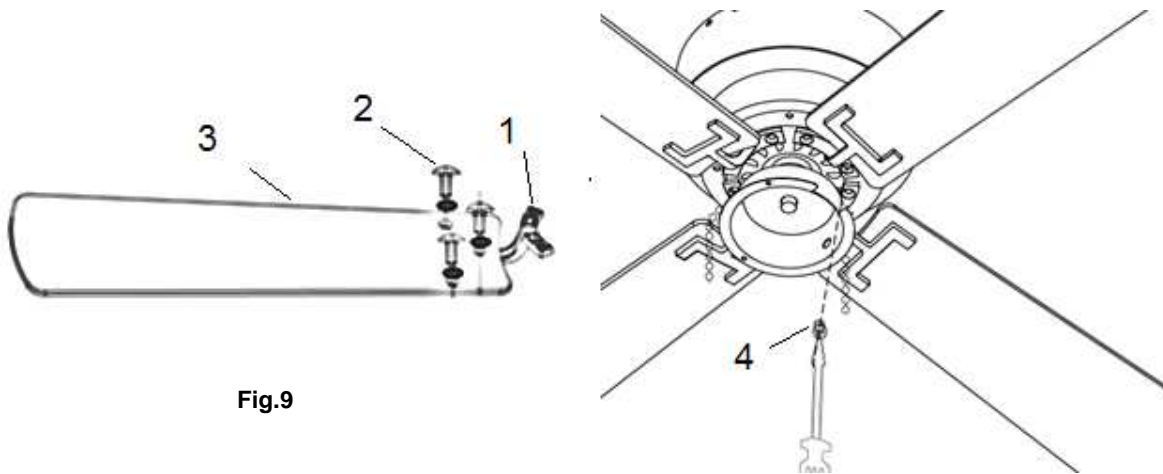

Fig.9
1. Assemble the blades (3) & holders (1) using the screw (2). (Fig. 9)
2. Secure the blade holder on the motor by using two motor screws (4) with washers to tighten it ensuring they are tightened simultaneously. Once completed, repeat the process on remaining blades.